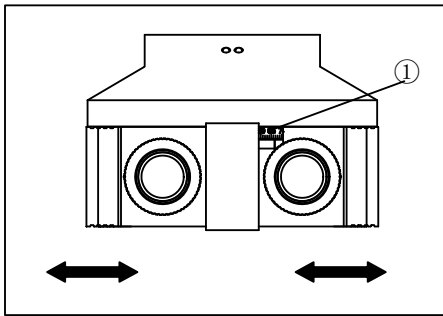

Fig.22
3.3.6 Adjusting the Interpupillary Distance (Fig.22)